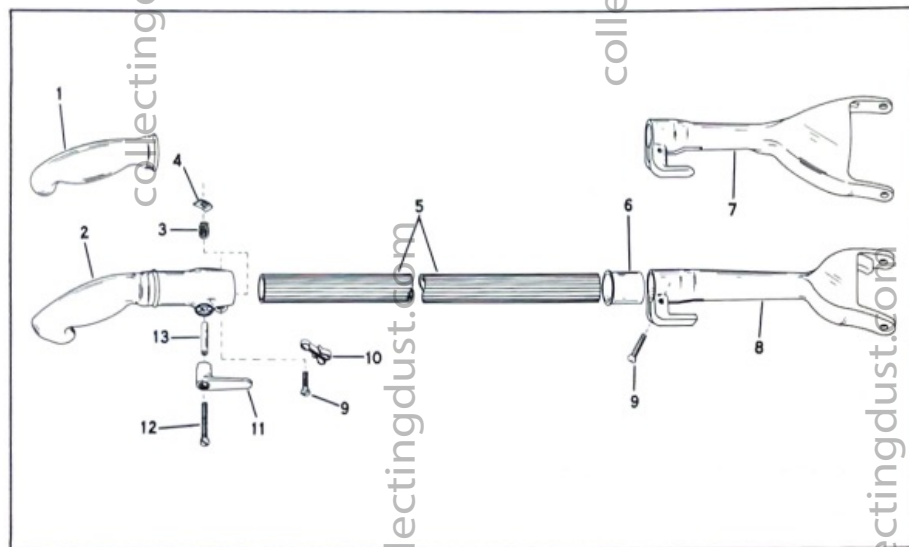

Figure 3-1. Handle Group, exploded view
b. Apply a small amount of rubber cement to the end of the grip casting; quickly slide the new handle grip plastic (1, fig. 3-1) into position.
a. Loosen the screw (9) that secures the handle grip assembly to the handle tube (5); slide the grip assembly from the end of the handle tube.
b. Use a long nose pliers to hold the swivel hook nut (4) and remove the screw (12) as shown in figure 3-2; remove the cord swivel hook (11, fig. 3-1), nut (4), spring (3), and tube (13).
d. Position the screw (12) and tube (13) on the cord swivel hook (11). Insert the screw part way into the handle grip (2) and position the spring (3) over the end of the screw; use a long nose pliers to hold the nut (4) inside the handle grip aligned with the screw, and secure the parts.
a. Loosen the screw (9, fig. 3-1) that secures the handle fork (7 or 8) to the tube (5); remove the handle fork and handle tube insulator cup (6).
b. Install the handle tube insulator cup (6) on the handle tube (5); position the handle fork (7 or 8) so that the cord hook is aligned with the cord swivel hook of the handle grip (2).